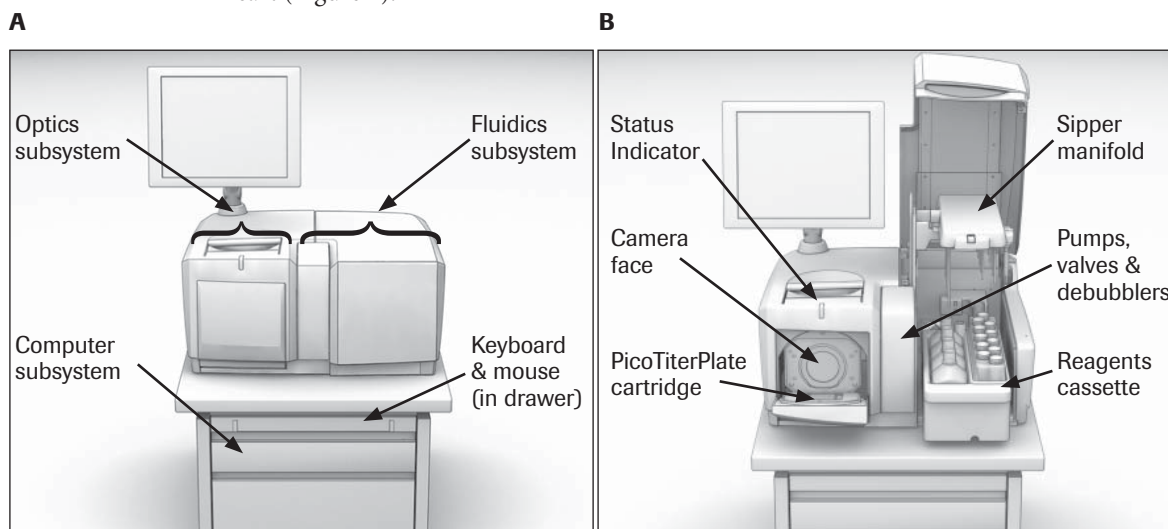

Figure 1: Main components of the Genome Sequencer FLX Instrument
The main components of the Genome Sequencer FLX Instrument are an optics subsystem and a fluidics subsystem which occupy the left- and right-hand sides of the instrument, respectively. Both systems are controlled by a computer subsystem, which is located in the cart (Figure 1).
- ▶ The **fluidics subsystem** moves the sequencing reagents across the wells of a PicoTiterPlate device (PTP device), and then moves spent reagents from the PTP device to the waste receptacle. The fluidics subsystem includes a Reagents cassette, which holds the reagent containers and doubles as a waste container; a reagent sipper tube assembly and reagent tubing; a 16-position valve manifold; 2 main peristaltic pumps; 2 debubblers with secondary “purging” pumps; a heated PTP cartridge holder (in the camera door); and effluent tubing leading to the waste container (Figure 1 B).
- ▶ Another visible component of the instrument is a Status Indicator LED (above the camera door, Figure 1 B), which shows at a glance the general status of the instrument (For details on the function of this LED, see Table 4 in section 4.2).
- ▶ For diagrams, see Figure 1 and section 3.1.